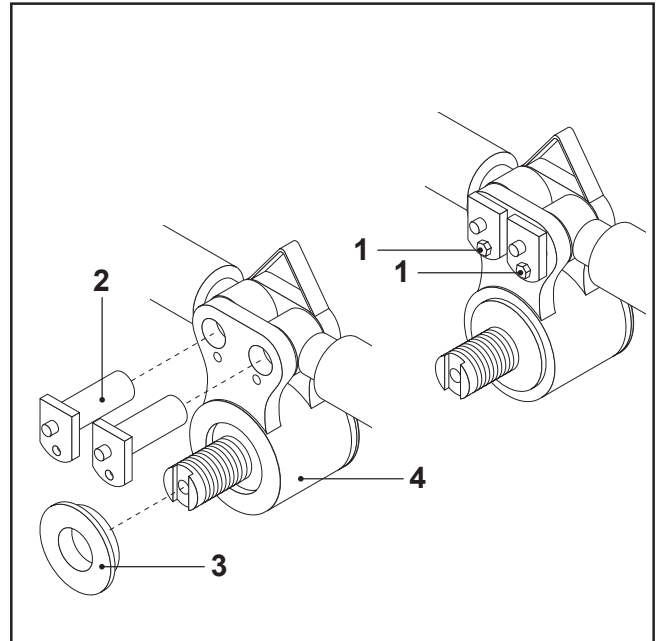

FIG.75
- Unscrew the two TE screws (FIG. 75-REF. 1) on the head of the jack retaining pins and remove the two pins (FIG. 75-REF. 2).
- Set aside the lever locking washer (FIG. 75-REF. 3) and the tapered connecting rod (FIG. 75-REF. 4).